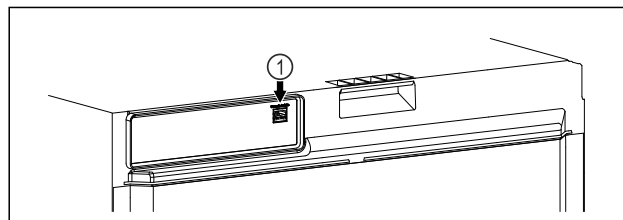

Fig. 127
- SmartModule Fig. 127 (1) is inserted.